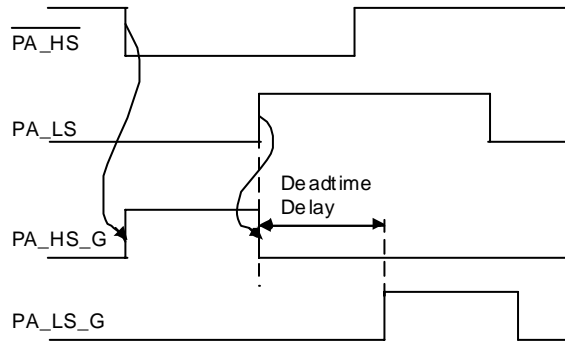

Figure 16. Edge Sensitive Logic Inputs (Phase A)
- **Read back of internal registers.** The status of the 33937 Status Registers can be read back by the Master (DSP or MCU). The Px_HS and Px_LS logic inputs are edge sensitive. This means the leading edge on an input will cause the complementary output to immediately turn off and the selected one to turn on after the deadtime delay as illustrated in Figure 16. The deadtime delay timer starts when the
corresponding FET was commanded off (see Figure 6 and Figure 16).